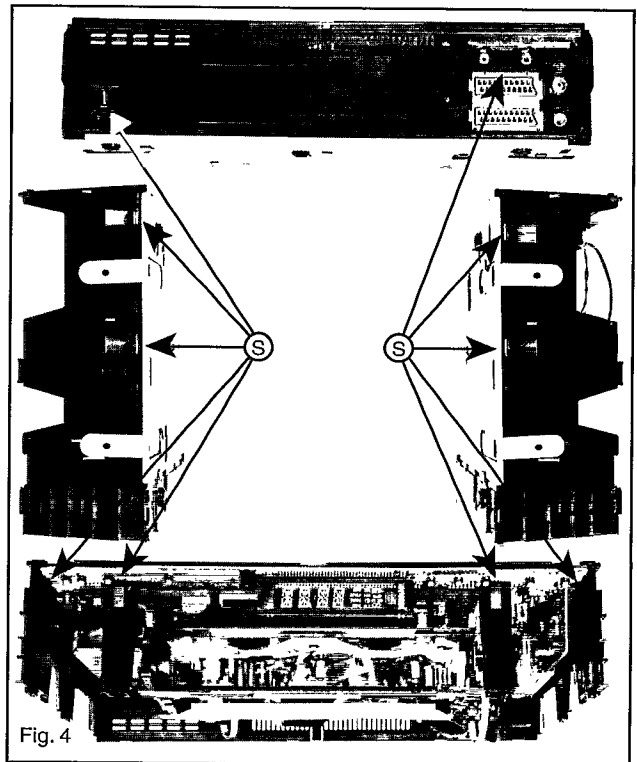

Fig. 4
4. Dismantling of the motherboard/drive combination (Fig. 3) (Fig. 4)